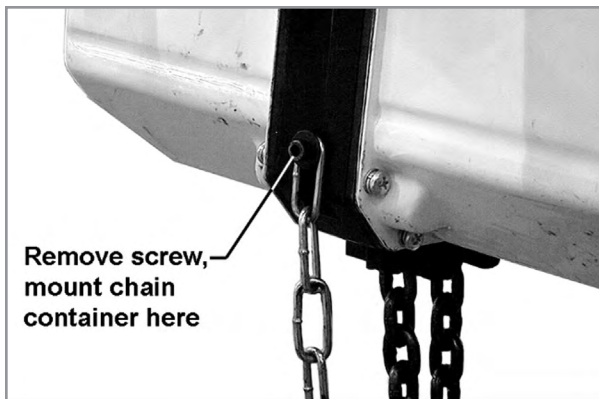
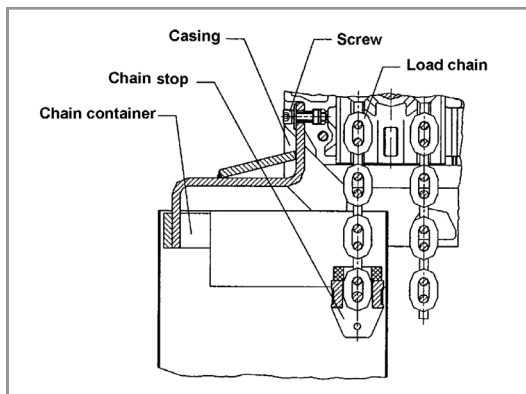

Figure 9
Figure 10
7. Remove the screw and washer holding the end chain to the hoist (Figure 9). Mount the bracket of the chain container in that location as shown in Figure 10.
8. Put the chain stop into the container (Figure 10) and operate the hoist to bring the load hook up until the upper limit switch is tripped.